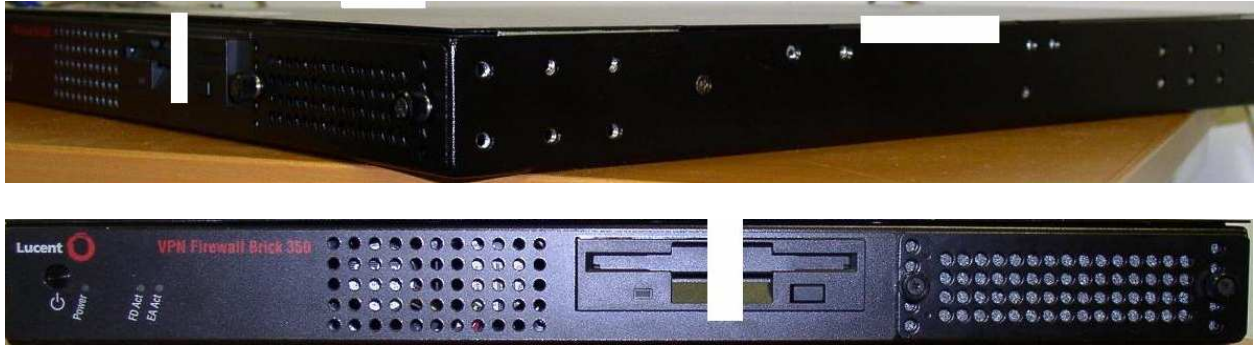

Figure 14 – Brick 350 Tamper Evidence Label Placement
2. Having the front cover facing you, place the first label on the top left of the chassis as shown in Figure 14. The tamper evidence label should be placed so that one half of the tamper evidence label covers the top of the chassis and the other half covers the left side of the chassis. Any attempt to remove the enclosure will leave tamper evidence.
3. Place the second label on the chassis as shown in Figure 14. The tamper evidence label should be placed so that one half of the tamper evidence label covers the top of the chassis and the other half covers the right side of the chassis. Any attempt to remove the enclosure will leave tamper evidence.
4. Place the third label over the floppy drive as shown in Figure 14. The tamper evidence label should be placed so that one half of the tamper evidence label covers the front top of the chassis over the floppy drive and the other half covers the floppy drive. Any attempt to remove the enclosure or insert or remove a floppy disk will leave tamper evidence.